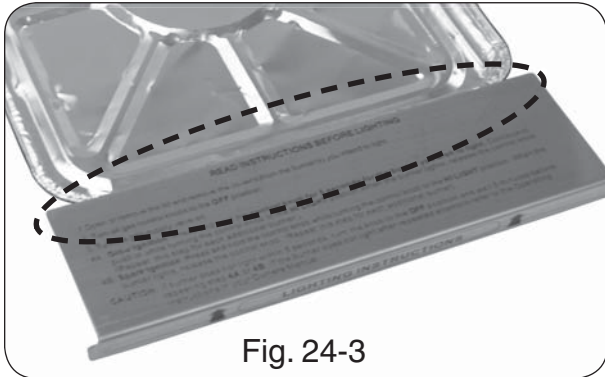

Fig. 24-3
**Note:** For models with match holders attached inside the drip tray, place the match holder off to one edge of the pan (Fig. 24-3). If necessary, mold the foil liner around them and the other features of the tray to create enough clearance space to open and close the tray without catching the liner.